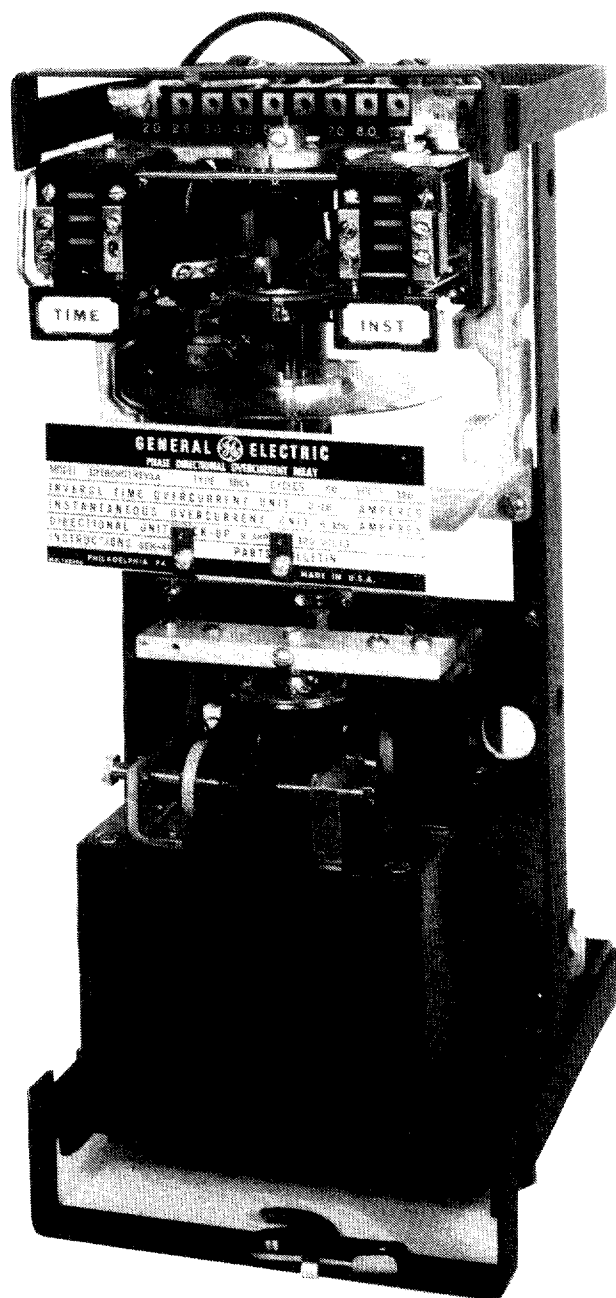

Figure 2 (8043463) Type IBCV51M(-)Y1A Relay Removed from Case (Front View)
- Figure 2 (8043463) Type IBCV51M(-)Y1A Relay Removed from Case (Front View)